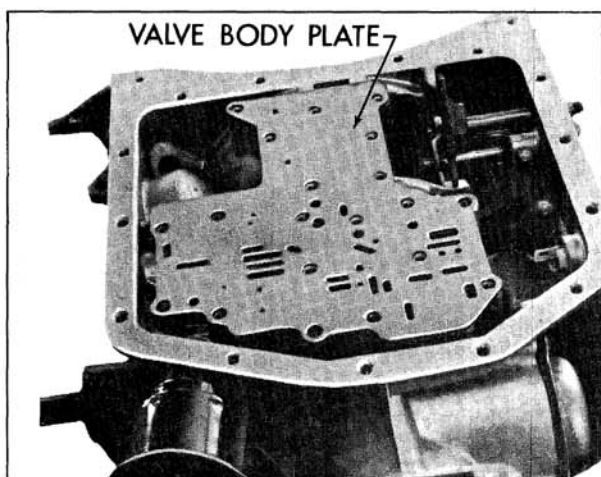

Fig. 6-357 Removing Valve Body Plate and Gasket
10. Remove valve body plate and gasket. (Fig. 6-357)